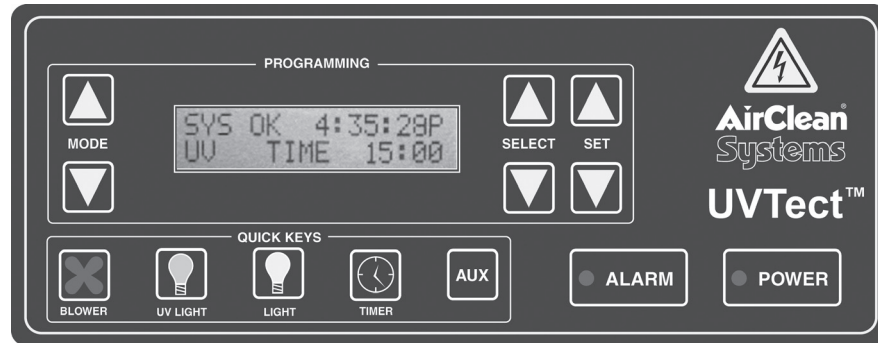

Figure 5, Control panel layout.
- 1) To activate the main power of the workstation, flip the switch above the power inlet. See figure 5.